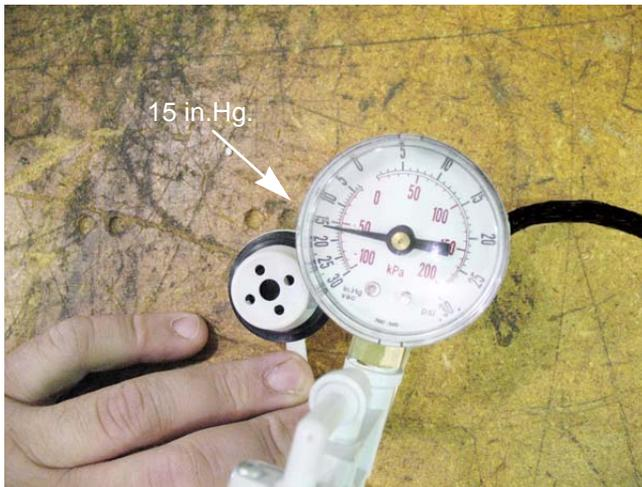

Figure 2.13
4. Apply a vacuum to the roll over valve. See Figure 2.13.